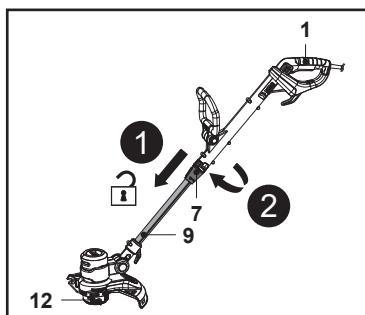

Fig. 6
1. Slide the unlock button (7) downward and turn the main handle (1) clockwise while holding lower pole (9) to adjust the trimmer head (12) to an angle of 90° or 180° (Fig. 6). Release the unlock button (7) and keep turning the main handle (1) until it locks in place. Ensure the unlock button (7) snaps into place.